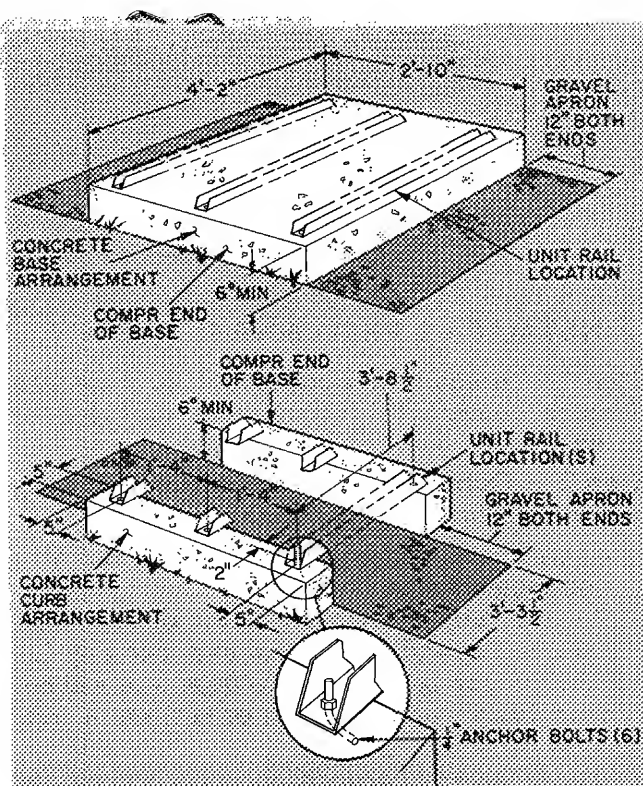

Fig. 2 — 38BQ008 Base Dimensions
Step 3 — On the Ground: Mount Unit on a Solid Level Concrete Pad. See Fig. 2 for pad dimensions. Ensure pad does not obstruct coil slots in unit basepan. (Slots drain water during heating cycle.) Construct pad at least 6 in. thick to provide clearance under basepan coil slots for drainage and ice buildup. *In areas where prolonged subfreezing temperatures or drifting or heavy snows occur, increase clearance to 12 to 18 inches. If climatic conditions dictate, construct an angle iron frame to support unit 12 to 18 in. off concrete pad. Cross angle of frame must not obstruct basepan coil slots. Extend a gravel apron around pad for condensate and defrost water drainage field.*